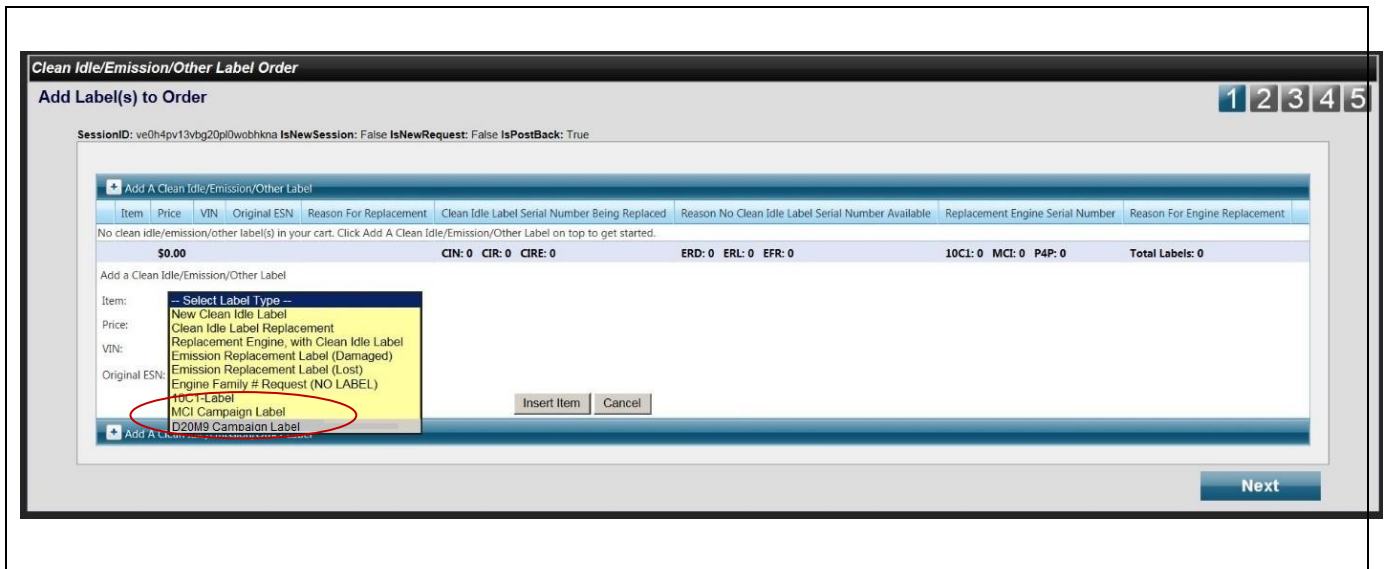

Fig. 10, Emission Label Ordering Process
3. Use the item drop-down menu and select “D20M9 Campaign Label.” See Figure 10.